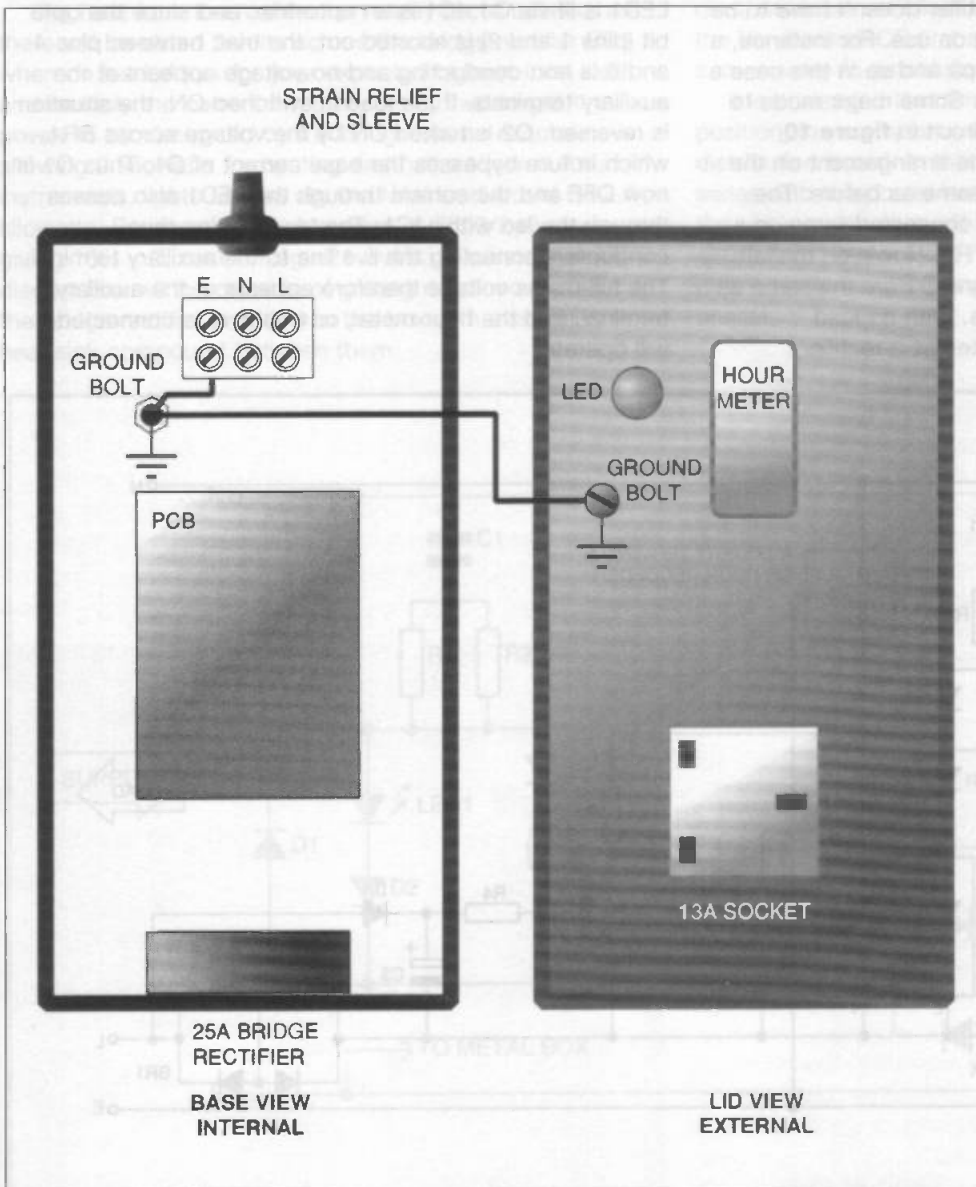
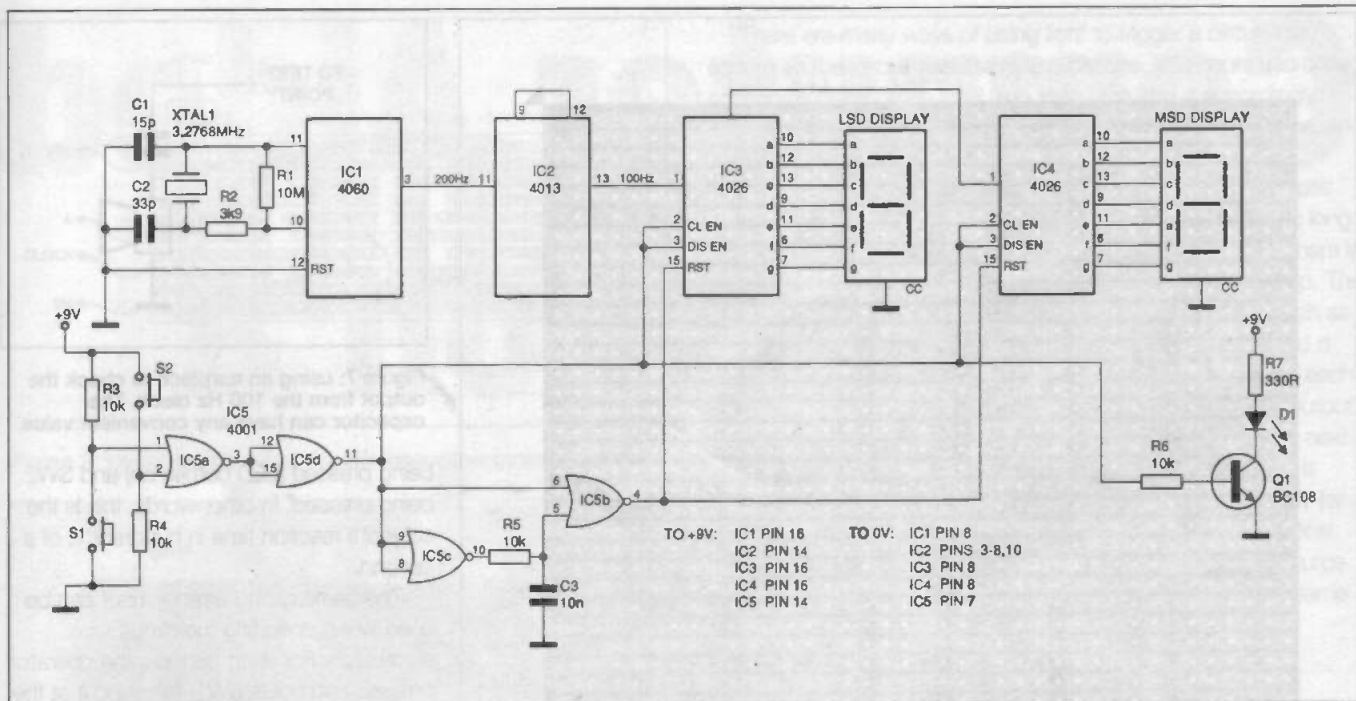
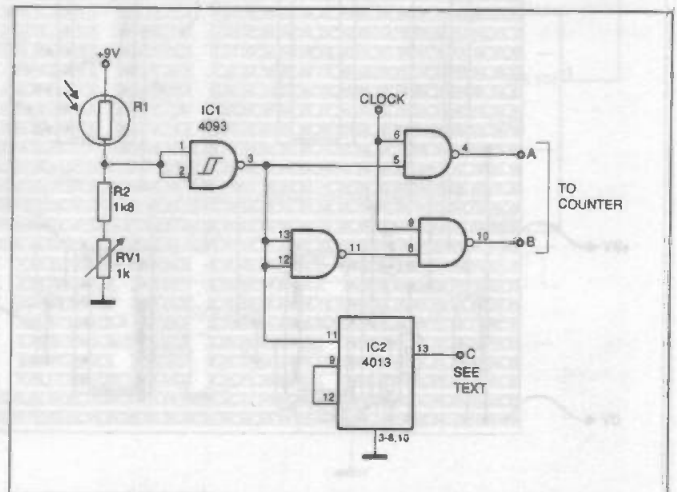

Figure 11: a suggested case layout for load-on time indicator. See the text for box and connection information
Figure 5: this circuit combines versions of several of our modules into a reaction timer and stopwatch
Figure 8: an electronic gating circuit deriving its action from a light-dependent resistor
PARTS LIST for figure 8
The circuit in figure 8 can probably be built from ready-to-hand components, apart from BR1. One or two reminders may not come amiss. The box must ensure that heat from the rectifier is dissipated, and it must be electrically safe. Assuming that it will be mounted on a wall near where a mains outlet is available, preferably fairly high up, at eye level or higher, then a strong metal box is the most attractive solution, **but the box MUST be earthed. The earth wire should be connected to the metal case firmly, using an earth bolt not used for any other purpose. The lid of the case should be grounded similarly, using a wire attached to the same bolt using a second nut.** The box must be large enough so that the works are not cramped up inside, causing a danger of overheating or short circuit in the future. **It is always good practice with mains to install a sheet of strong plastic between the underside of the circuit board and the surface it is mounted on as further insulation, and doubly important to make sure that the board is mounted such that no component leads or solder joints or other live item can touch or puncture the plastic or contact the box.**
Figure 8: the circuit of a load-on indicator. Note that this circuit is drawn with the Neutral (N) line at the top. See the text for parts list and component values
In this application the bridge rectifier doesn't have to be quite so beefy, with size depending on use. For instance, a 2-kilowatt heater takes about 8 amps and so in this case a 10-amp bridge would be adequate. Some major mods to the circuit in figure 8 will give the circuit in figure 10, which will achieve this objective. The arrangement on the right hand side of the figure is the same as before. The voltage across BR1 when a load is connected turns on a transistor, now Q2, via D3, C2 and R4. However, the left hand side is different. C1, R1, R2 and D1 are the same as before and serve the same purpose. With no load connected, Q2 is off and D2 operates as a rectifier
The circuit in figure 8 was intended for permanent mounting, whereas the circuit in **figure 10** is really intended to be mobile and fitted with a plug and lead for connection to the supply and a socket for the connection of the appliance (load). It may also be designed with a built-in hour meter or with the hour meter as a separate item, in which case a connection socket will be required. If a connection socket is used, I would suggest that it is NOT a 13 amp socket, so that there is no chance of a heater being plugged in to the output of IC1 - which definitely wouldn't stand it. The maximum current is 100 mA. If this is not sufficient, then a relief triac must be added to IC1 to handle higher currents. **The hole for the incoming cable must be fitted with a strain relief and protective sleeve for the incoming cable rather than just a grommet. Figure 11** suggests a possible layout, though again there may be personal variations as necessary again so long as the heat dissipation and safety factors are looked after. Again build up the Veroboard/PCB and assemble the other components to assess the size of the box.
Figure 8 is an example of the ways in which a stopwatch or other timing circuit may be gated as a result of an external event. The sensor is a light-dependent resistor. In average daylight its resistance is about 1 kilohms, and increases when it is shaded. Current flows through the resistor chain generating a potential difference across R2 and RV1. This voltage becomes the input of the NAND gate. We adjust RV1 so that the input voltage is a little more than 5V. This counts as a high input making the output go low. This NAND gate is special because, unlike the usual NAND gate of the 4011, this one has Schmitt trigger inputs. They have a rapid 'snap' action and, once the voltage has fallen sufficiently to change the state of the gate (at about 4.1V), the voltage must rise appreciably (to about 4.9V) before the gate changes back again. A slowly and erratically changing light level causes one and only one change of state, not a series of 'ons' and 'offs'. The result is a single well-defined timing period, with no false starts.
The circuit of figure 8 has three outputs, two of which gate the clock directly. Output A produces the clock signal for as long as the LDR is shaded. Output B has the opposite action. There is also an output though a 4013 wired as a divide-by-2 flip-flop. The output of this is used to drive a resetting/enabling circuit such as that in figure 5, being connected in place of gates IC5a and d and the components to their left. The output changes state each time the LDR is shaded, even if only for an instant. As the output goes low it resets the counter and enables counting. At the next shading, the output goes high, counting ends and the time is displayed. This circuit can be used as a lap timer, particularly for model racing cars. A beam of light is aimed across the track at the LDR. Timing begins when a car passes between the source of light and the LDR, and ends the next time it passes the same point.